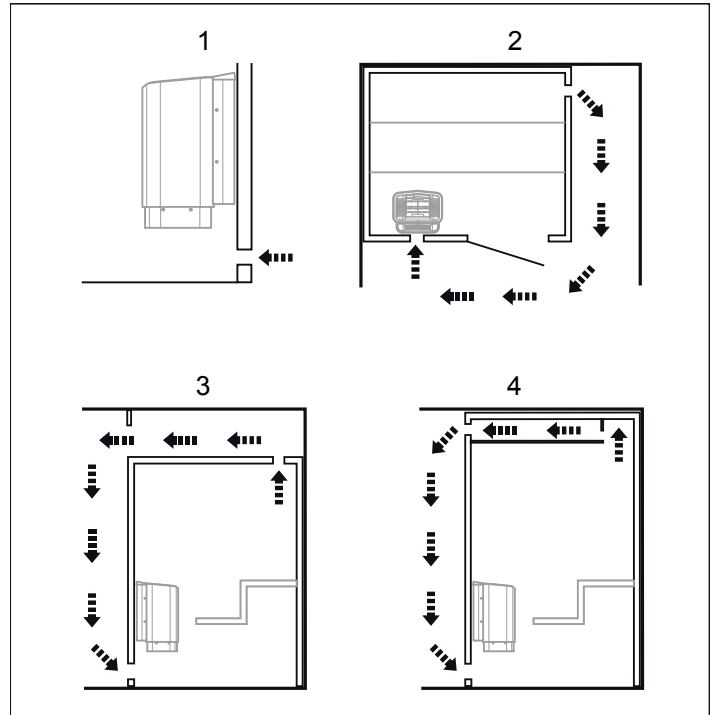

Figure 9: Positioning the air intake and exhaust vents
- at the maximum possible distance from the air intake vent, e.g. diagonally (see Figure 9).
- high on the wall or in the ceiling (see Figure 9).
2. Connect the electrical cable (1) to the terminal (2) (see Figure 9) according to the wiring diagram (see the Connection/wiring diagram section, page 19).